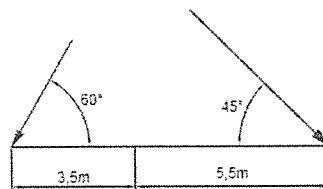

FIGURE 2
- 2.2 FIGURE 2, DIAGRAM SHEET 1 (attached), shows a lever held in position by a pivot at O and by a force F.